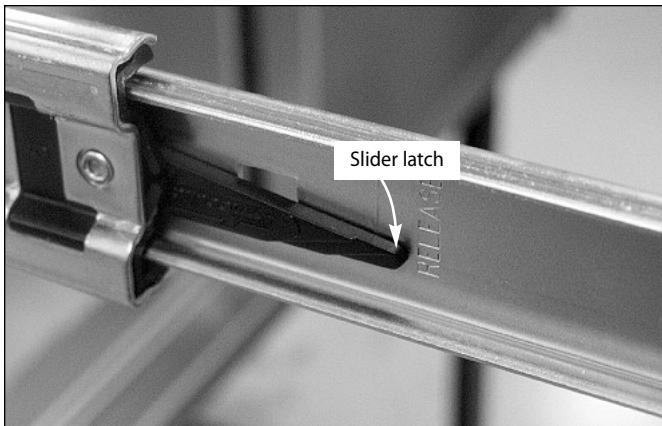

Fig. 7
- Once the unit has been inspected, remove the left drawers by pulling them out until their slider latch is visible. Carefully push the latch down on the left side while pulling up on the right side and pull the drawers completely out of the frame (Fig. 7).